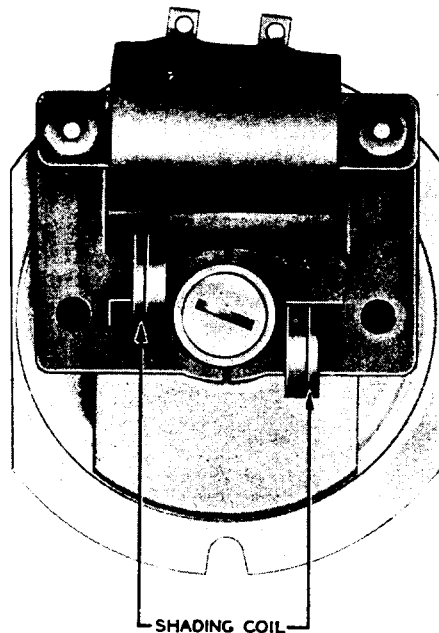

Fig. 2 - Position of Shading Coils
3.01 Unsolder the leads to the motor coil terminals at the front of the motor and tag them for later identification. Loosen the nut of the rear motor mounting screw, using the No. 417A wrench. Remove the two front motor mounting screws, using the Nos. 563A and 564A offset screwdrivers. Remove the motor and spacer by sliding them forward. Remove the gear from the motor shaft after loosening the setscrews, using the R-2653 wrench. Remove the screws holding the stator, using the 3-inch cabinet screwdriver. Remove the nameplate, spacers, and stator. Mount a KS-16066, List 2 stator on the shaft so that the shading coils are in the position shown in Fig. 2. Remount the nameplate and spacers, using the two screws furnished with the stator. Securely tighten the stator, using the 3-inch cabinet screwdriver. Obliterate the KS-7780 marking on the motor, and stamp KS-16066, List 1. Mount the motor and spacer by placing the slot in the motor plate and spacer under the head of rear motor mounting screw, and slide the motor and spacer toward the rear. Take care that the spacer is properly located between the motor and the mounting plate. Insert the two front motor mounting screws, making them finger tight.